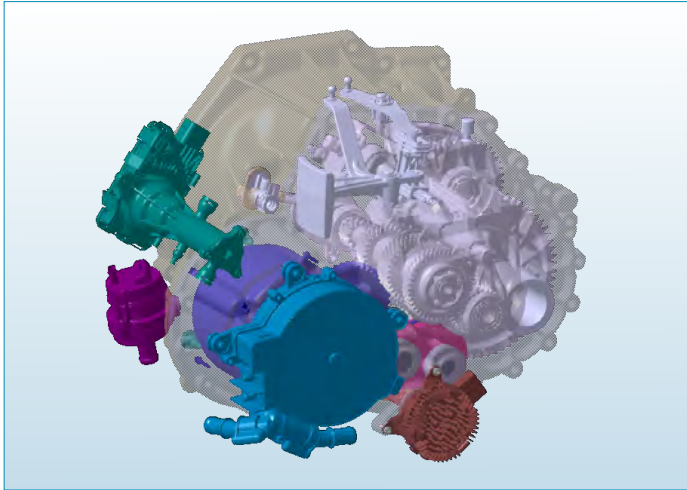

Figure 2 Step 2 – adding the e-motor
Step 2 is the integration of an e-motor and inverter into the transmission, creating a hybrid manual transmission (HMT). GETRAG went for a P3 concept, connecting the e-motor to the final drive of the transmission, **Figure 2**. The 48 V motor/inverter unit is carried over from the GETRAG HDT family (6HDT200 and 7HDT300). The e-motor integration substantially reduces CO2 emissions. Moreover, the P3 design enables fully autonomous parking using the e-motor.